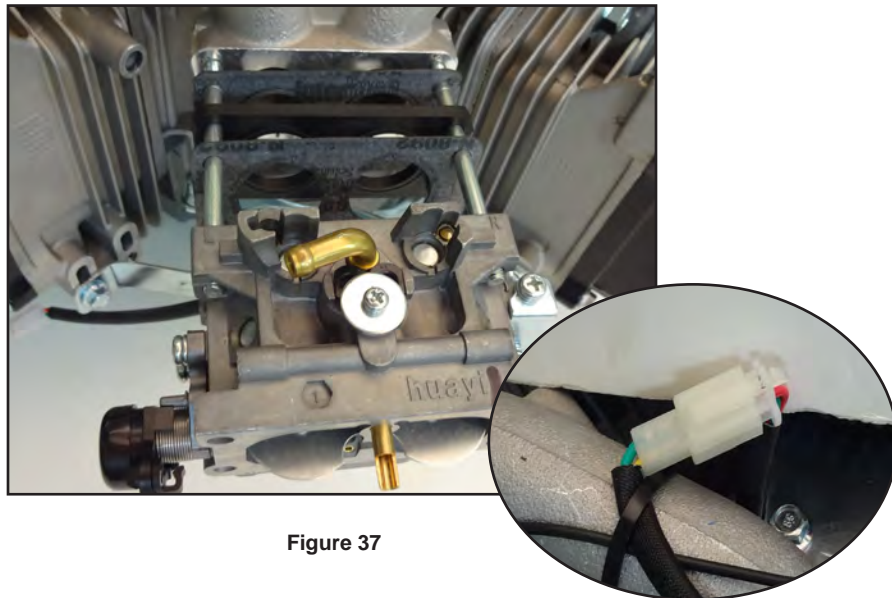

Figure 37
3. Route fuel solenoid wire up and under the intake manifold. Connect the fuel solenoid wire into the wire harness (Figure 37).